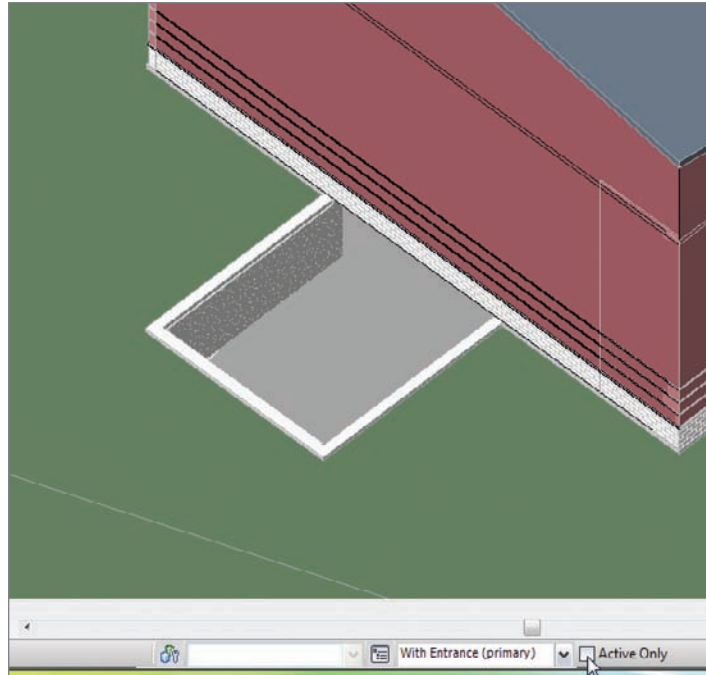

FIGURE 21.29 The Active Only button
12. Click the Active Only button off at the bottom of the screen, as shown in Figure 21.29.